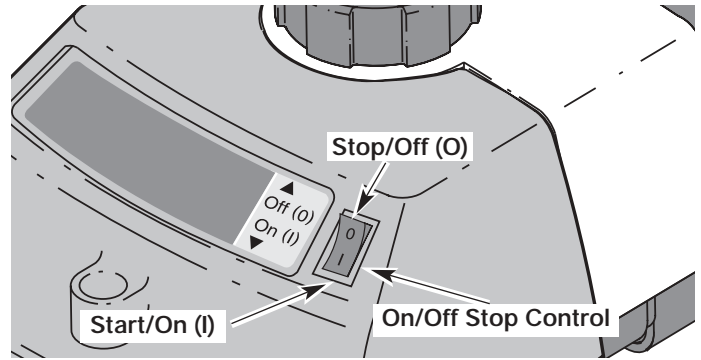
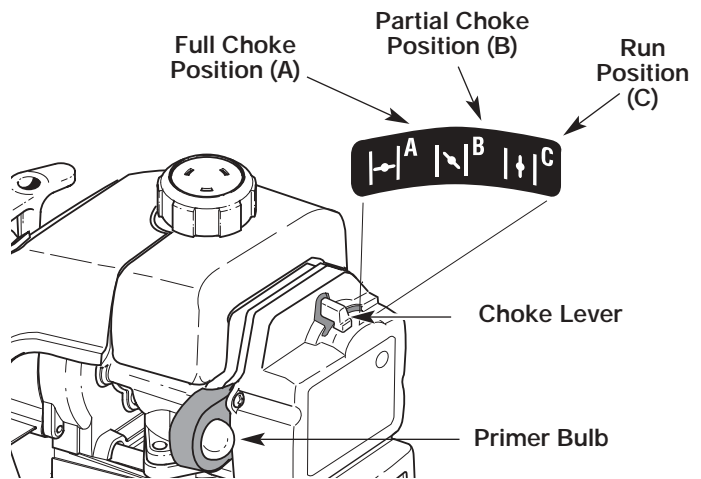

Fig. 6
Fig. 7
2. Put the On/Off Stop Control in the **ON (I)** position (Fig. 6).
3. Fully press and release the primer bulb 10 times, slowly, until **FUEL IS VISIBLE IN THE PRIMER BULB** (Fig. 7). If you can't see fuel in the bulb, press and release the bulb as many times as it takes before you can see fuel in it.
4. Place the choke lever in the **FULL** choke (A |←|) position (Fig. 7).
6. Place the choke lever in the **PARTIAL** choke (B |↘|) position (Fig. 7).
**NOTE:** If the engine floods while trying to start, place the choke lever in the **RUN** (C |↑|) position (Fig. 7). Squeeze the throttle control. Pull the starter rope briskly. The engine should start within three (3) to eight (8) pulls.
9. Squeeze the throttle control to warm up the engine for 5 to 10 seconds. Place the choke lever in the **RUN** (C |↑|) position (Fig. 7).
**NOTE:** Choking is unnecessary when starting a warm engine. Put the On/Off Stop Control in the **ON** position (Fig. 6), and start in **PARTIAL** choke (B |↘|) position (Fig. 7). After starting, place the choke lever in the **RUN** (C |↑|) position.
2. Put the On/Off Stop Control in the **OFF (O)** position (Fig. 6).